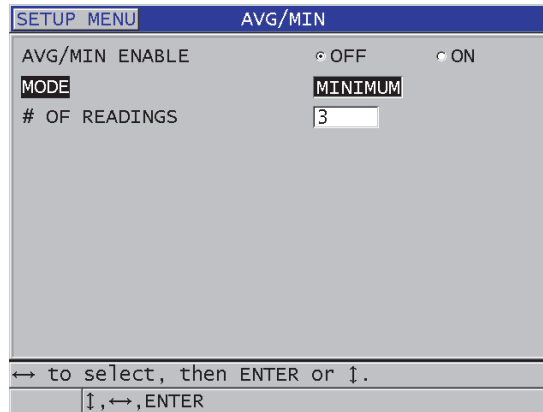

Figure 10-16 Opening the Avg/Min measure dialog box
3. In **AVG/MIN** screen (see Figure 10-16 on page 174):